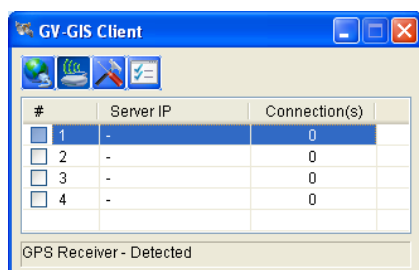

Figure 11-81
2. Click the  button on the GV-GIS Client window (Figure 11-81). This dialog box appears.
- Click the  button on the GV-GIS Client window (Figure 11-81). This dialog box appears.